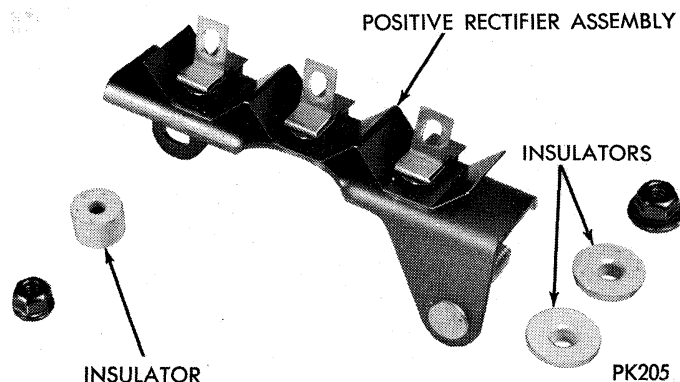
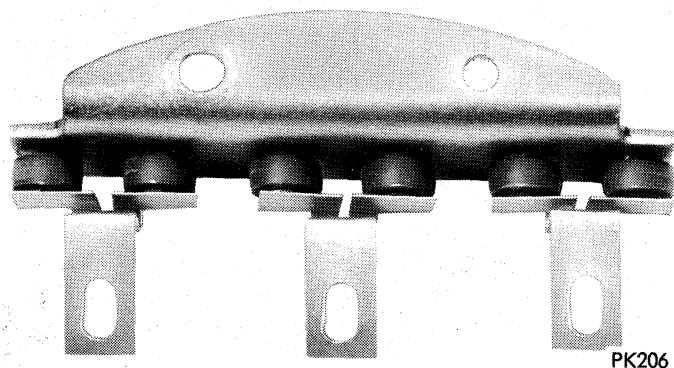

Fig. 49—Positive Rectifier Assembly and Insulators
Fig. 50—Negative Rectifier Assembly Removed
- (1) From inside of rectifier end shield remove nut and insulator attaching positive heat sink assembly to end shield stud.
- (2) Remove screw attaching capacitor to end shield.
- (3) From outside of rectifier end shield remove nut and insulator attaching positive heat sink assembly stud to end shield.
- (4) Remove positive heat sink assembly and note location of all insulators (Fig. 49).
- (5) Remove two screws attaching negative heat sink assembly to rectifier end shield.
- (6) Remove negative heat sink assembly (Fig. 50).
- (7) Remove two screws attaching terminal block to end shield.
- (8) Remove terminal block.
- (9) Remove capacitor and insulator.